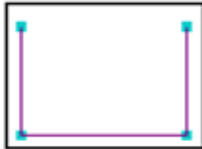

Figure 53: Dustpan first three curves
8. **Repeat** steps 4 to 7 (selecting the right end of the horizontal line) to **create** a third line on your own, so that the model looks Figure 53.